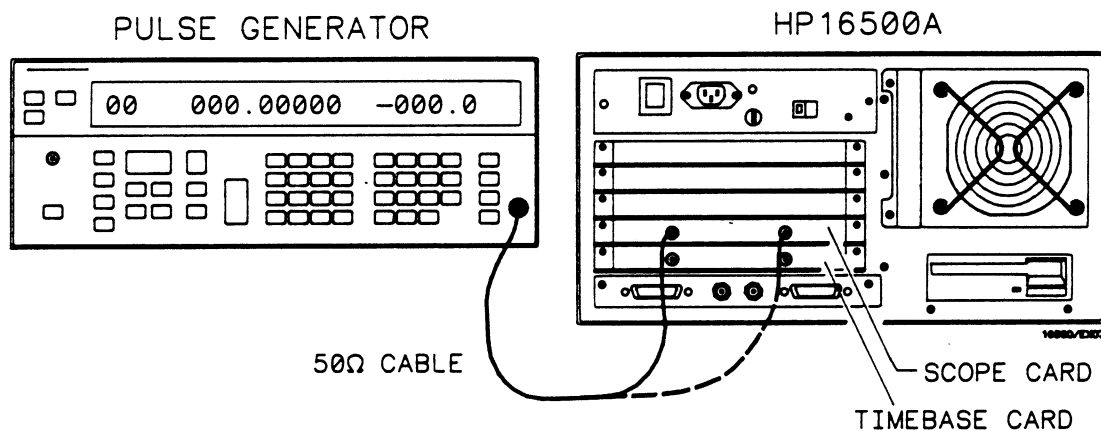

Figure 3-1. Bandwidth Test Equipment Hookup
- Connect signal generator to acquisition card as shown in figure 3-1, and set the output for a 200 kHz sine wave with an amplitude of 300 mV.